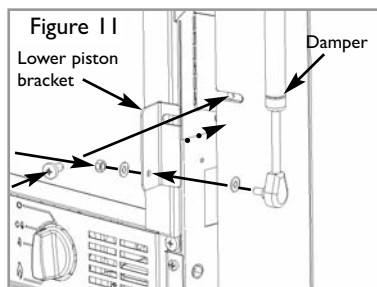

Figure 11
**1)** Ensure that the piston portion of the damper is positioned as shown in figure 11. Remove the Philips screw securing the frame, and fit the lower piston bracket to the frame and fully re-tighten the screw.